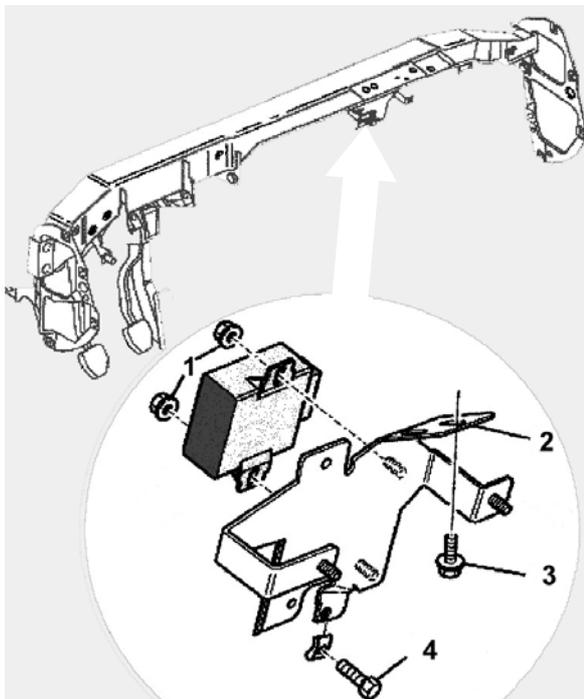

Fig. 2
- Remove the screws (see Fig. 2, Items 3 and 4) from the holder for the headlight range adjustment control unit, and remove the mounting brackets (see Fig. 2, Item 2) from the body section.
- Remove the fastening bolts (see Fig. 2, Item 1), and remove the old control unit from the holder.